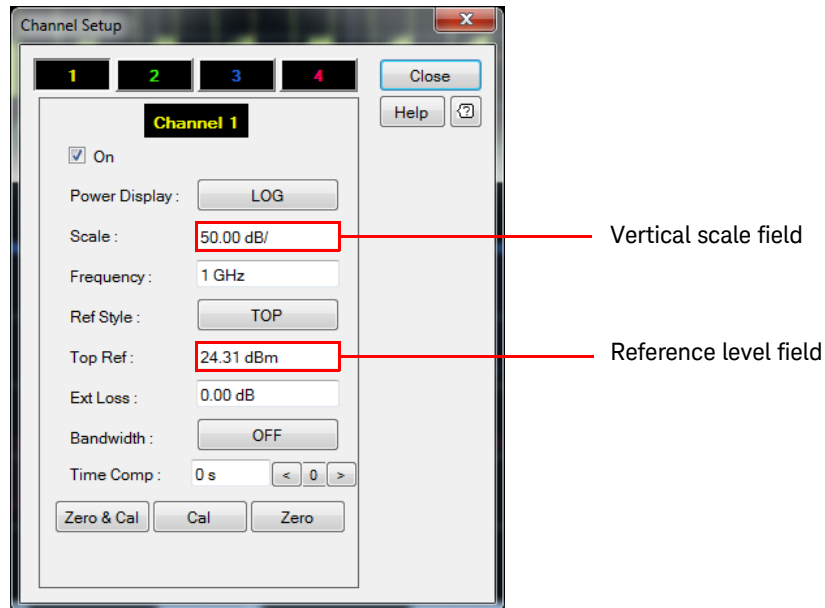

Figure 2-11 Vertical scale and reference level field for the RF input channel
- 2 For RF input channels, select the vertical scale field on the Channel Setup dialog to adjust the vertical scale as shown in Figure 2-11.
- 3 The vertical offset in the RF input channel is referred to as top reference level, center reference level, or bottom reference level depending on the desired reference style. Select the reference level field on the Channel Setup dialog to adjust the reference level as shown in Figure 2-11.